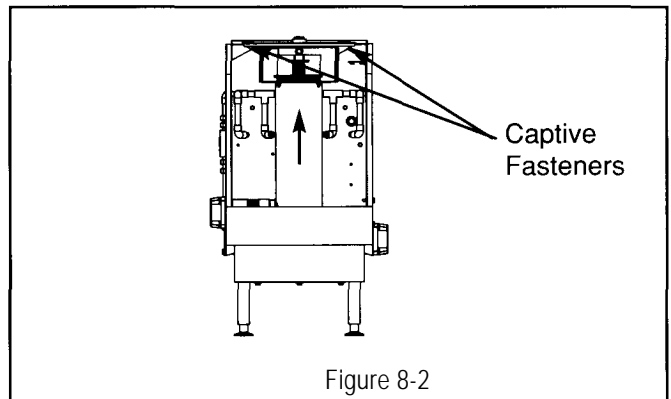

Figure 8-2
3. Remove auger-bearing bracket by turning the two captive fasteners counter clockwise and then pull bracket upward (see figure 8-2), replace if necessary.